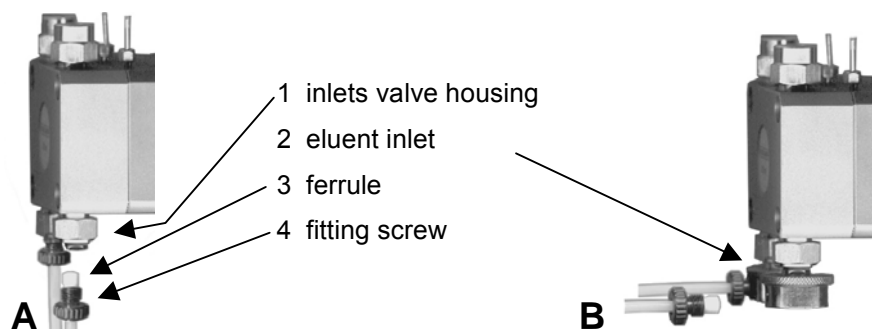

Fig. 24 100, 250 and 500 ml pump head: hydraulic connections
Solvent tubings are connected to the pump head according to Fig. 24. Make sure that the flat side of the ferrule is directed to the pump head and that the fitting screw is fastened hand tight. According to the local conditions the tubings can be connected either to the inlets valve housing (A) or to the eluent inlet (B).